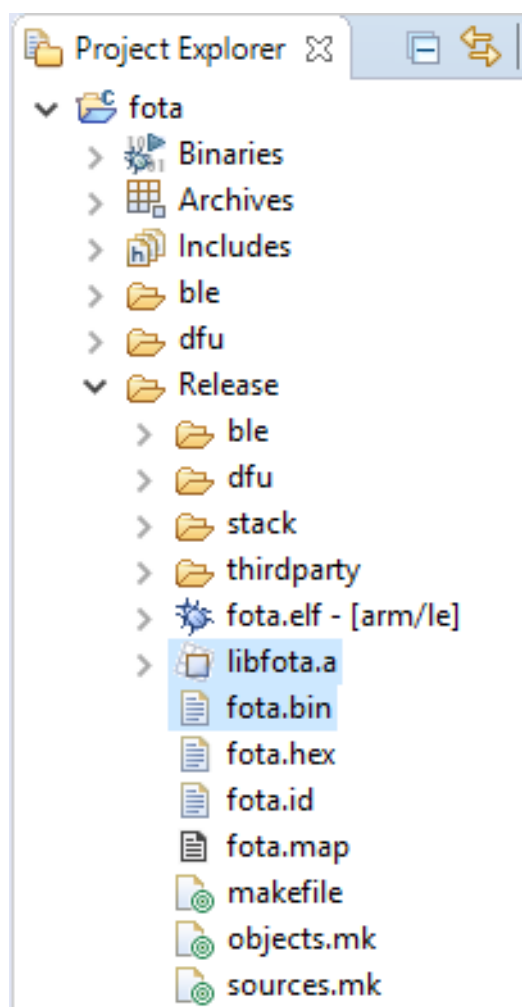

Figure 12. Building the Project
3. Build the project. After building successfully, *libfota.a* and *fota.bin* are generated under the *Debug* or *Release* folder, as shown in the figure "Building the Project" (Figure 12).